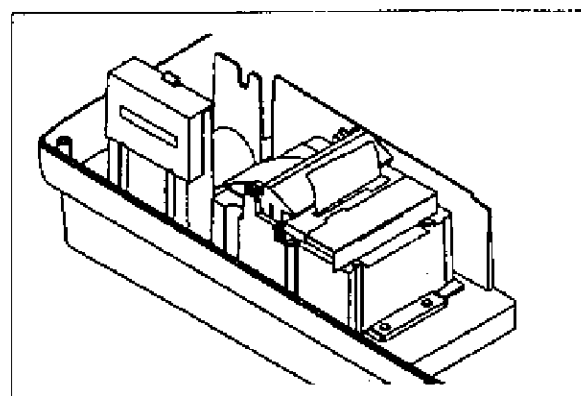

Fig.6
4. Insert the end of the paper into the paper entrance. (See Fig.6.).